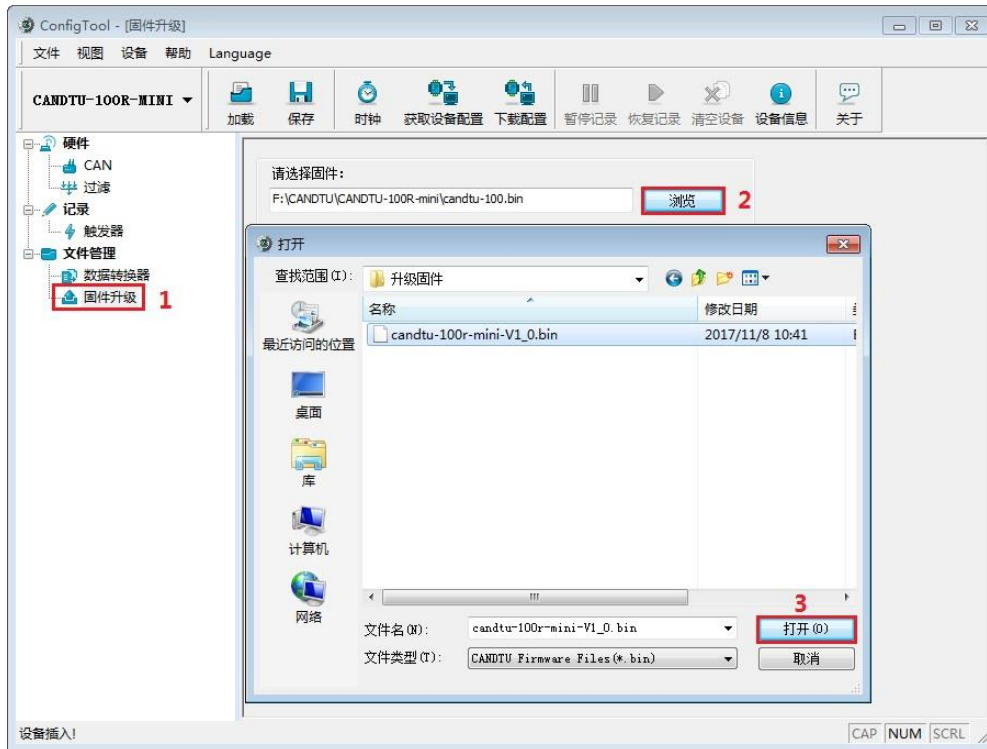

Figure 6.3 Selecting firmware
- 2) Select "Firmware Upgrade" in the option bar on the left side of the configuration tool. Select "Browse" on the main interface of the configuration tool to find and start the firmware to be upgraded, as shown in Figure 6.3.